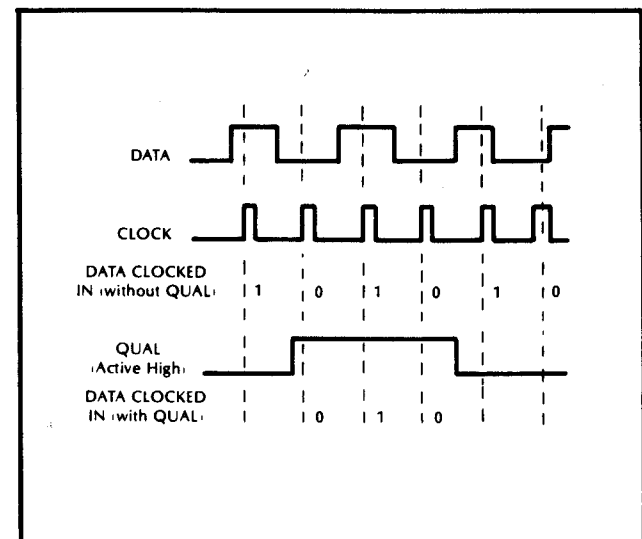

Figure 3-8. Signature Analysis Measurement Timing
3-86. Signature Analysis (SA) employs a unique data compression technique that reduces any long, complex data stream pattern on a logic node to a four-digit "signature". The operator supplies the Start and Stop signals to identify the data stream, and a Clock signal to control the sample rate of the probe input. An illustration of the timing involved in a Signature Analysis measurement window can be seen in *Figure 3-8*.
3-92. The Qualified SA mode is selected by pressing the QUAL function key. The Qualified Signature Analysis mode is similar to the normal mode, but with the following enhancement. In this mode, the STOP/QUAL input on the Timing Pod is sensed as a "data qualifier". Conceptually, the qualifier can be thought of as "enable" signal. By controlling the logic state of this input, the operator can effectively window the signature measurement within a specific stream of data. Refer to *Figure 3-8*. The trigger thresholds for the inputs are selectable from the standard preset values for TTL, or determined from an external dc input for CMOS. The active edge or level for CLOCK, START, STOP and QUAL, is selectable using the POLARITY keys. When in the QUAL Signature mode, the red Timing Pod lead is the QUAL (qualifier) input, and the green Timing Pod lead is both the START and STOP input. The measurement is made through the Data Probe.